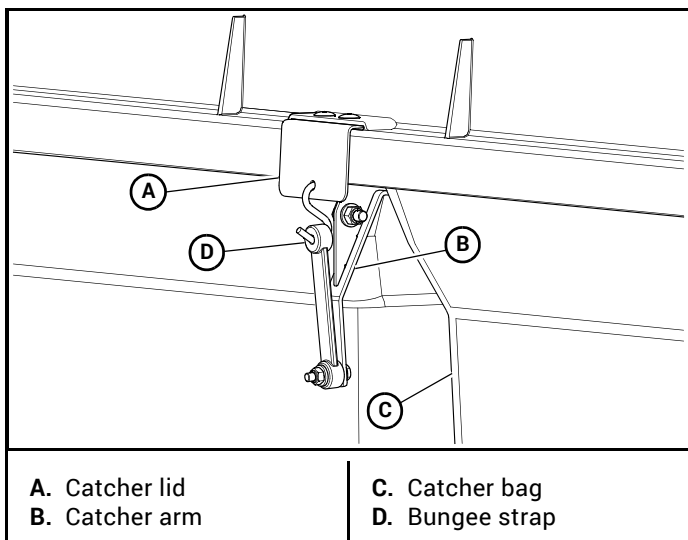

Figure 3-8
13. Strap the catcher lid to the catcher arm to secure during operation. Figure 3-8